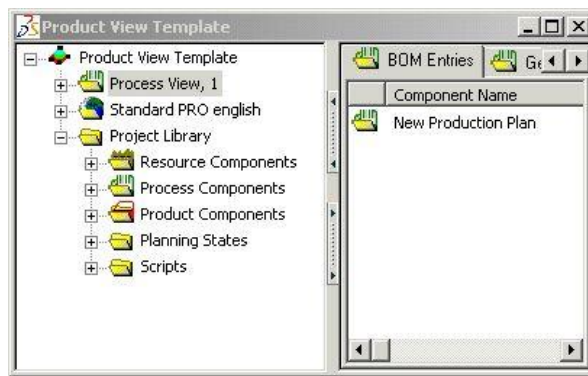
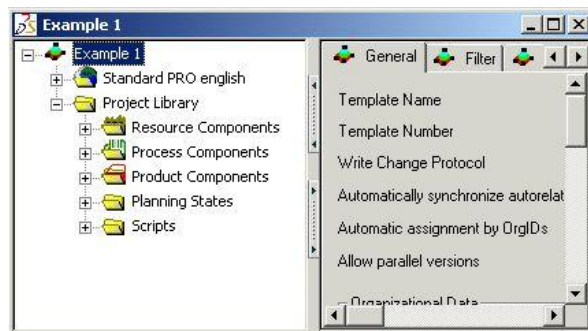

Figure 19: Open Template as Project; Toplevel Node
Figure 20: Open Template as Project; no Toplevel Node
- If you create a template on a toplevel node (the product view is defined toplevel as can be seen in the Figure 19), this node is displayed in the planning view where it can be edited. *Please refer to the Figure 19 and Figure 20.*